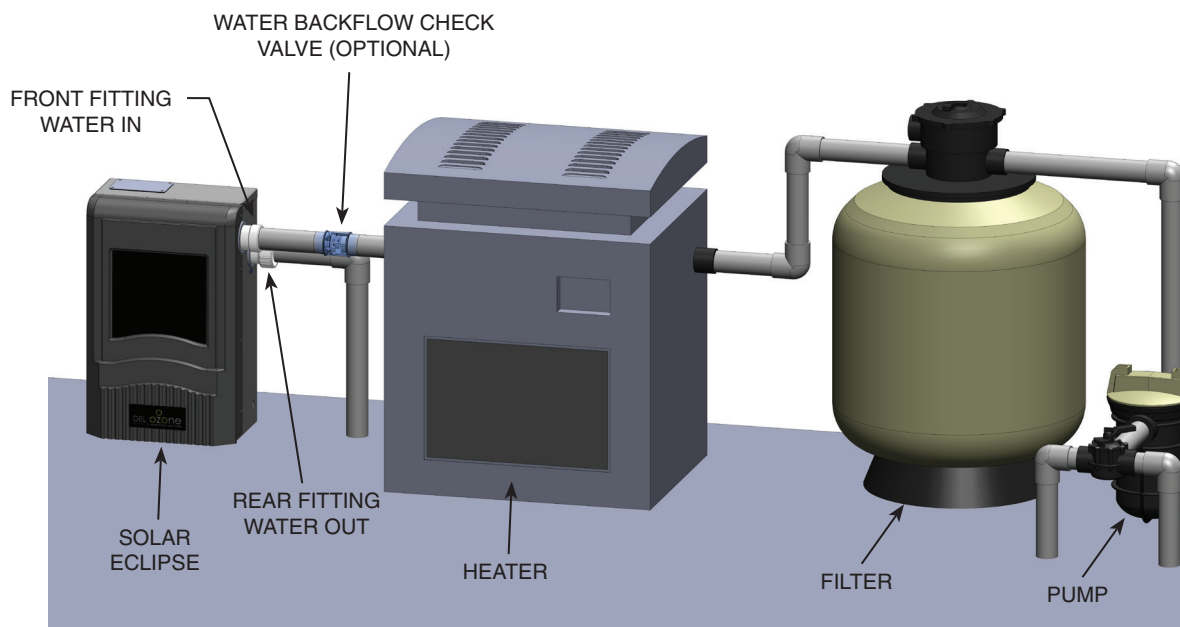

Figure 3: Solar Eclipse Location in Pool Loop
- Install at least 5 feet (3.05 meters) from wall of pool. Install ozone generator no less than one (1) foot above maximum water level to prevent water from contacting electrical equipment. Install in accordance with the installation instructions.
- The Solar Eclipse must be installed in an outdoor location, or indoors in a forced air ventilated room, and installed so that the orientation is exactly as shown in Figure 3. Install to provide water drainage of generator to protect electrical components.
The Solar Eclipse must be installed in the pool's main return line after all other pool equipment (pump, filter, heater, and cleaner). Figure 3 shows the most basic installation. For installation with additional sanitizers and pool cleaners contact DEL Technical Support (see Section 6A).
plumbing as shown above in Figure 3.